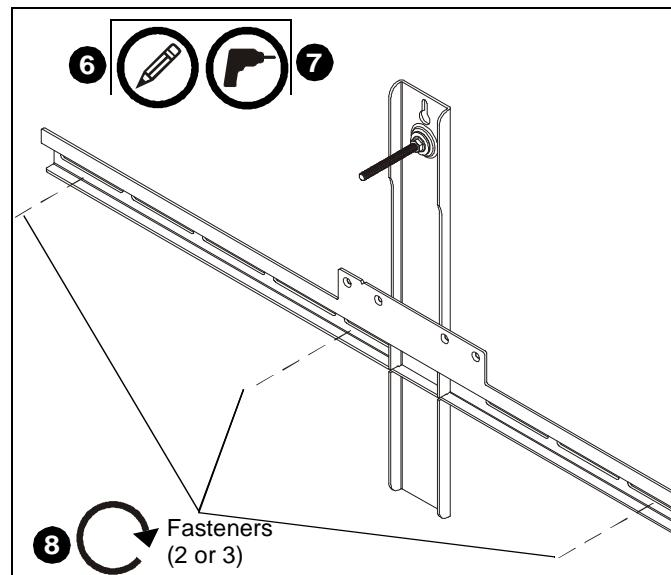

Figure 4
6. Determine location of studs behind drywall, and mark a **minimum** of two locations for wall bracket attachment over studs. (See Figure 4)
7. Drill one pilot hole (see Table 1 for size) at each location marked in Step 5 (See Figure 4) and follow fastener information (appropriate for wall type) located in Table 1.
8. Fasten wall bracket assembly to wall using fasteners appropriate to wall type (See Table 1). (See Figure 4)